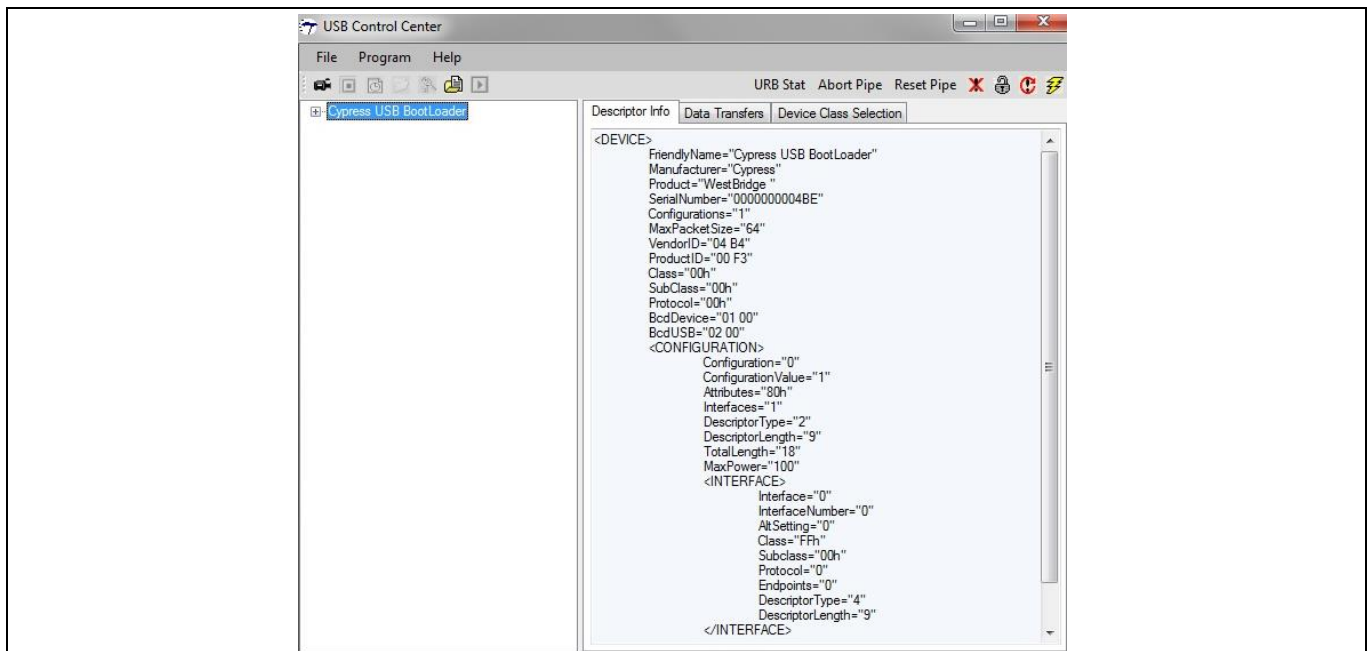

Figure 30 Cypress USB BootLoader enumeration in Control Center
- When connected to a USB Host, the FX3™ device enumerates in the Control Center as “Cypress USB BootLoader, as shown in **Figure 30**.